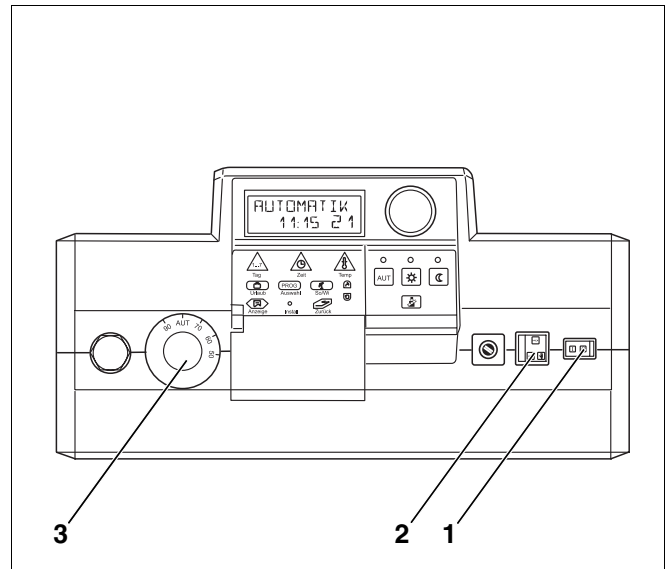
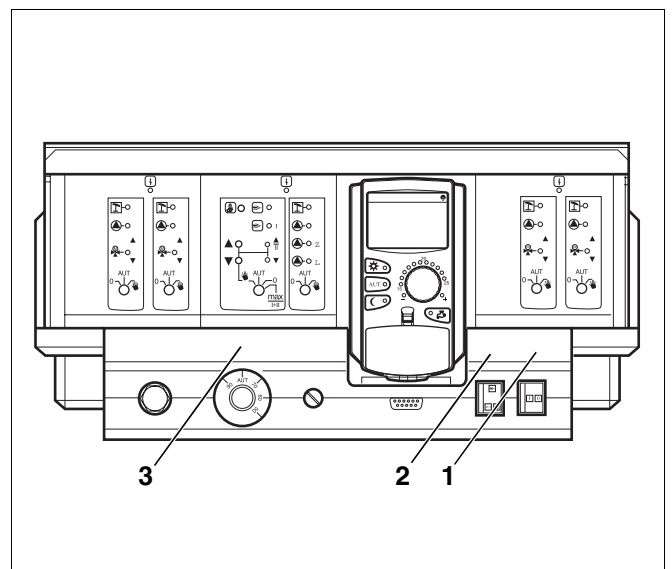
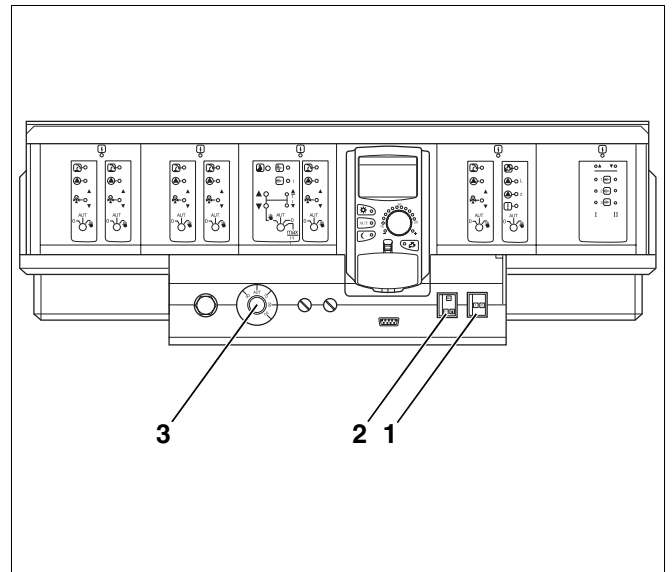

Fig. 1 Logamatic 2107 control unit (not available in UK)
Fig. 2 Logamatic 4211 control unit
Fig. 5 Logamatic 4311 control unit
- Place the system On/Off switch (Fig. 1, **item 1**) and (Fig. 2, **item 1**) and (Fig. 5, **item 1**) into position "I" (ON).
- Place the switch for the emergency operation of central heating and DHW (Fig. 1, **item 2**) and (Fig. 2, **item 2**) and (Fig. 5, **item 2**) to "AUT" (Automatic).
For Logamatic control unit, the boiler water thermostat (Fig. 1, **item 3**) and (Fig. 2, **item 3**) and (Fig. 5, **item 3**) is preset to "AUT" at the factory.
- Put the system On/Off switch (Fig. 1, **item 1**) and (Fig. 2, **item 1**) and (Fig. 5, **item 1**) into position "0" (OFF).